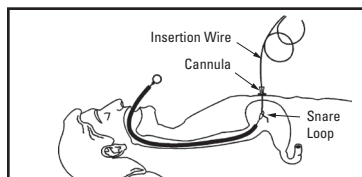

Figure 5
- Pass the looped end of the insertion wire through the cannula into the stomach (Figure 5).